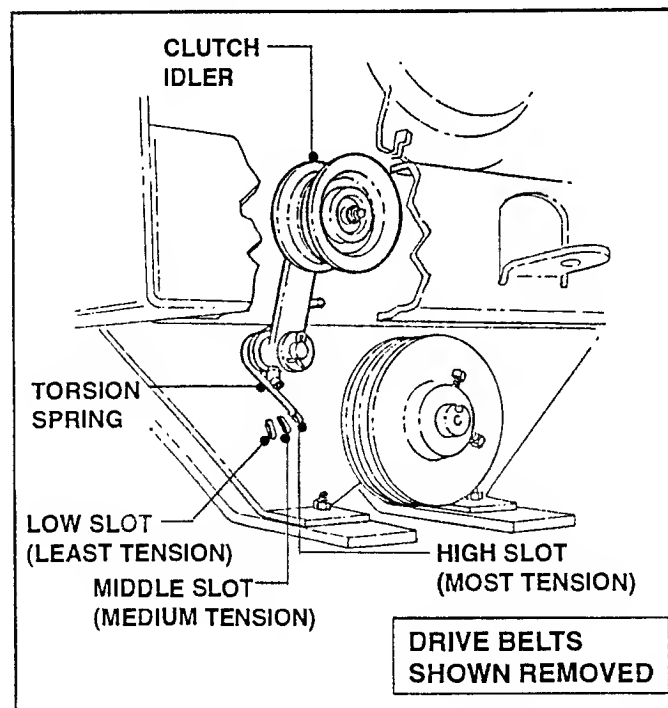

FIGURE 8.2
1. Using a suitable pry bar, disengage the Torsion Spring from the Idler Arm Weldment. See Figure 8.2.
3. Reattach Torsion Spring to Idler Arm Weldment. Refer to Figure 8.2.